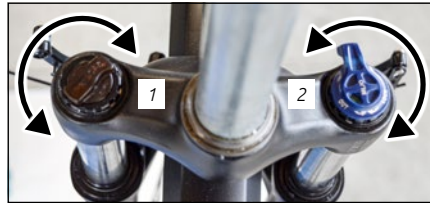
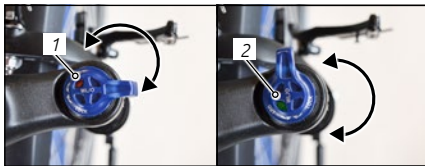

Fig.:32 (Example)
Fig.:34
1. To adjust the suspension preload (see "Fig.:32 (1)") of the fork, turn the screw (see "Fig.:33") of the fork bridge.
The lockout function (see "Fig.:32 (2)") completely blocks the suspension travel of the fork. This can be helpful if you are riding uphill or on well-paved roads using great exertion. If you want to block the suspension travel, turn the lever (see "Fig.:34") in the LOCK direction. If you want to adjust the suspension function again, turn the lever in the OPEN direction.